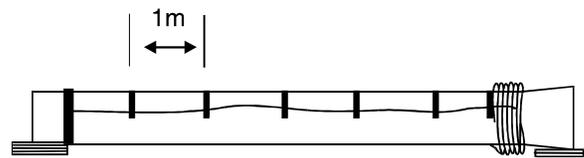

Figure 3
(Figure 3). Pull the sleeving tightly around the pipe and fold the excess to form a triple thickness pleat of film over the pipe crown.
6. At the spigot end of the pipe tape the end of the sleeve to the pipe body around the whole circumference ensuring that the tape overlaps the end of the sleeve and onto the pipe (Figure 3). Secure the fold in position using short strips of plastic adhesive tape at a maximum spacing of 1 metre.